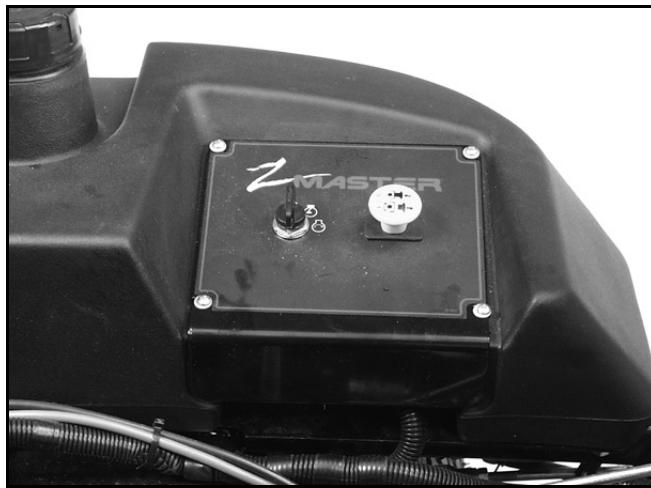

Figure 91
3. If the left tank is to be removed, remove the electrical control panel from the tank (Figure 91).